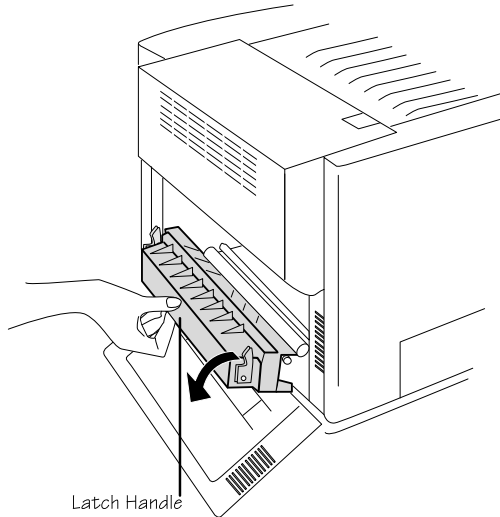

Fig. 6.17 *Open the Transfer Unit*
2. Open the transfer unit by pulling the green latch handle in the center toward you and down (fig. 6.17).